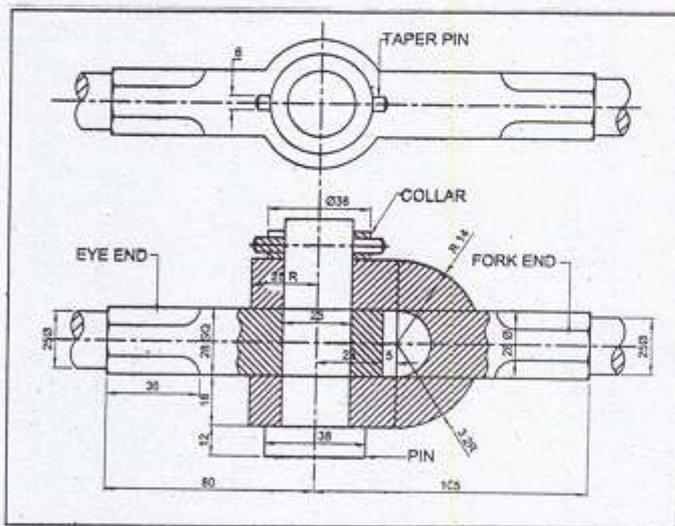

FIG.NO.7
- Q.4** Sectional Elevation , Side view and Top view of ‘Knuckle Joint ‘ are shown in FIG. NO.7. Draw its necessary two orthographic views of the following dismantled parts.